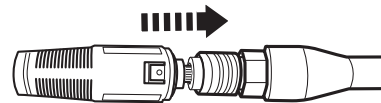

Fig. 16
- > Pull the nozzle backward to set the water jet to high pressure (Fig. 16).